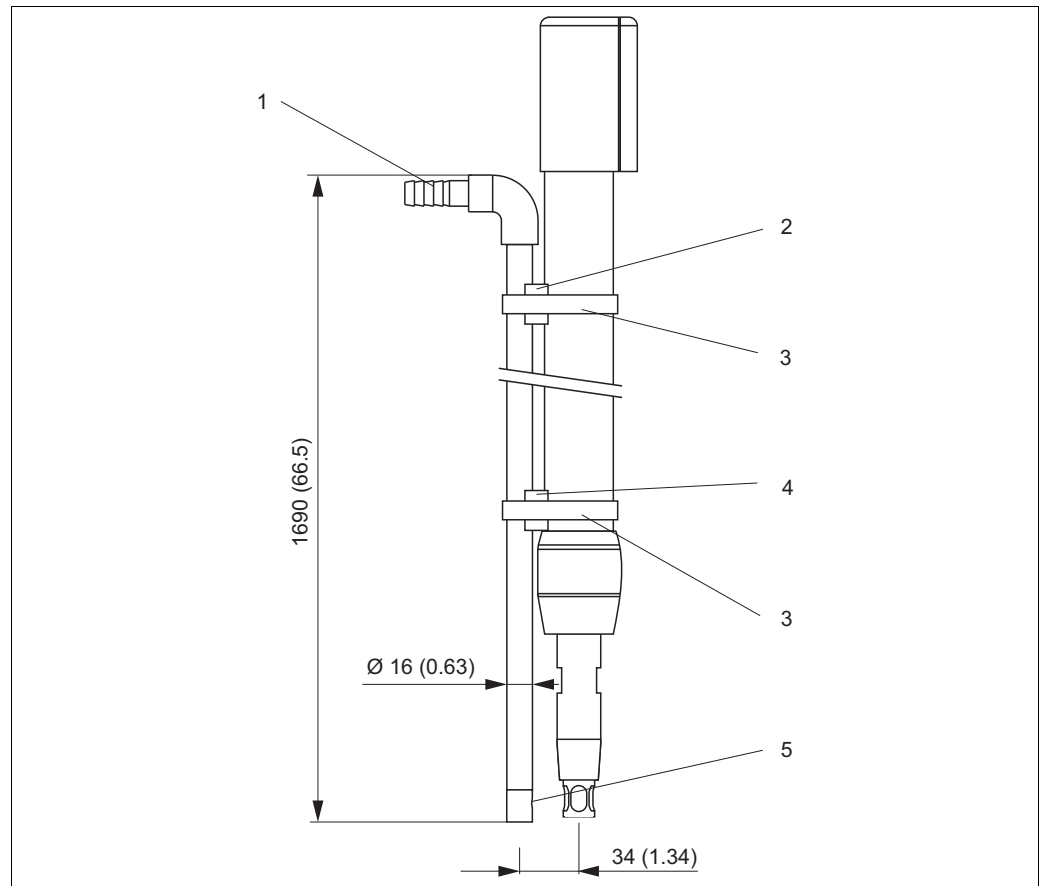

Fig. 14: Spray cleaning system
1. Secure the pipe of the spray cleaning kit to the CYA611 using the worm drive hose clips (→ Fig. 14, pos. 3) and the spacers (pos. 2, 4).